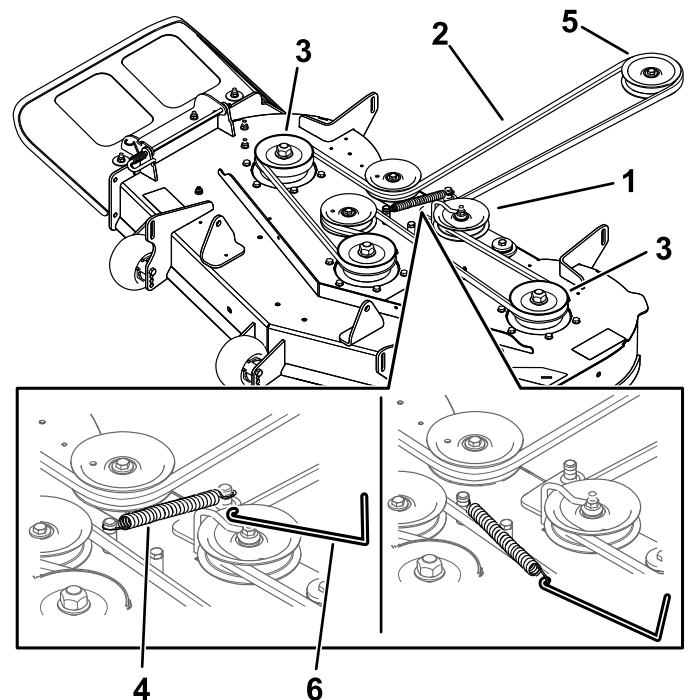

Figure 52
6. Using a spring-removal tool (Toro Part No. 92-5771), remove the idler spring from the deck hook to remove tension on the idler pulley and roll the belt off the pulleys (Figure 52).
7. Route the new belt around the engine pulley and mower pulleys (Figure 52).
8. Using a spring-removal tool (Toro Part No. 92-5771), install the idler spring over the deck hook and place tension on the idler pulley and the mower belt (Figure 52).